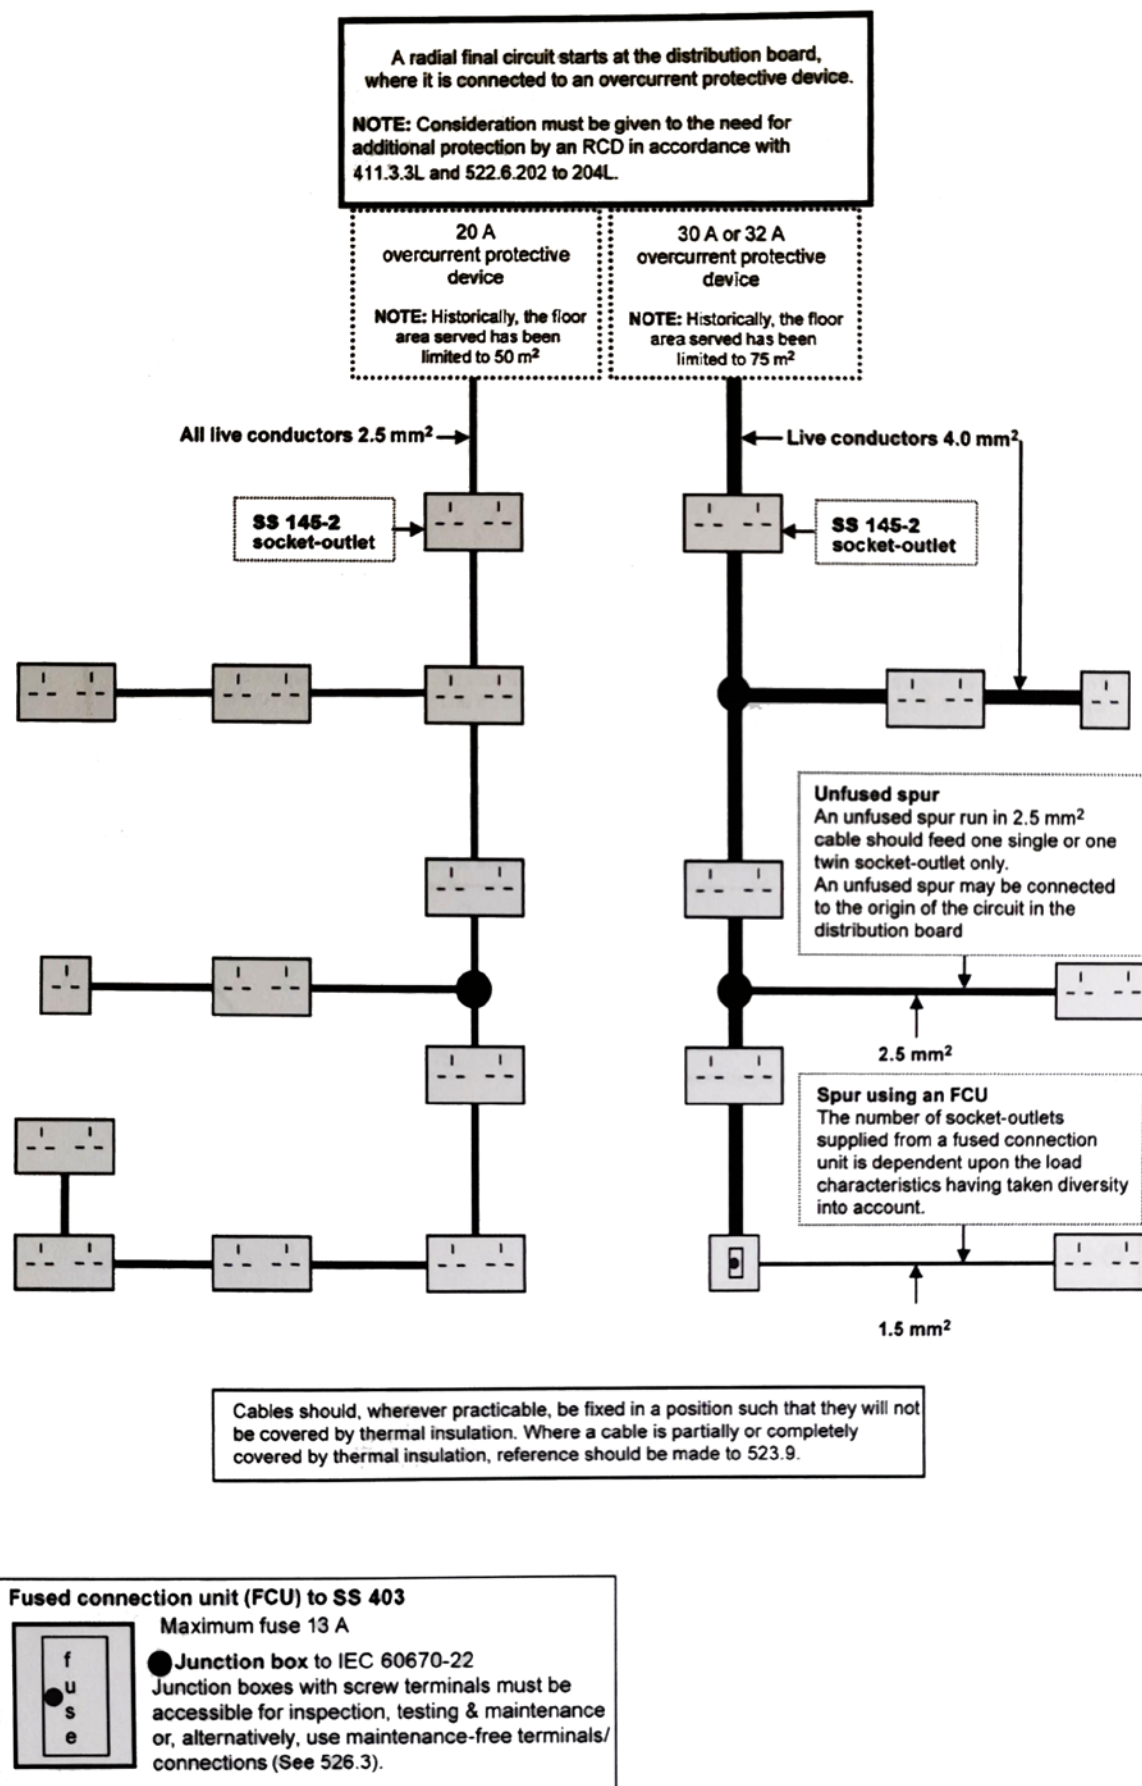

Fig 3-2 Radial Final Circuit arrangements for 13A Switched Socket Outlets
- e. Guidelines on the rating of protective device; type and minimum size of conductor; and maximum floor area to be served are given in Fig 3-2.